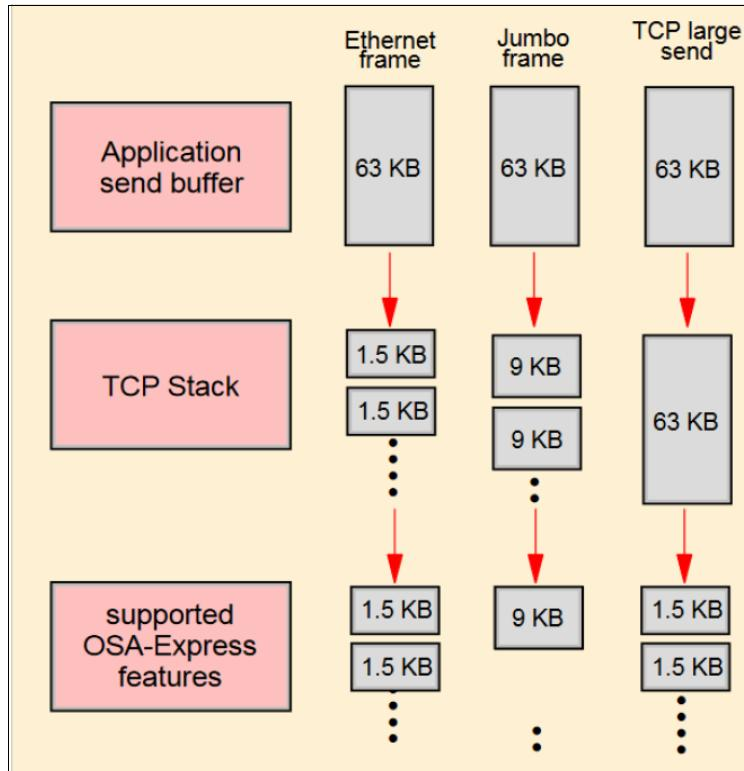

Figure 5-2 Large send versus standard Ethernet and jumbo frame sizes
*Large send* (also referred to as *TCP segmentation offload*) can improve performance by offloading TCP packet processing from the host to the OSA-Express features that are running in QDIO mode. Offload allows the host to send large blocks of data (up to 64 KB) directly to the OSA. The OSA then fragments those large blocks into standard Ethernet frames (1492 bytes) to be sent on the LAN (see Figure 5-2).